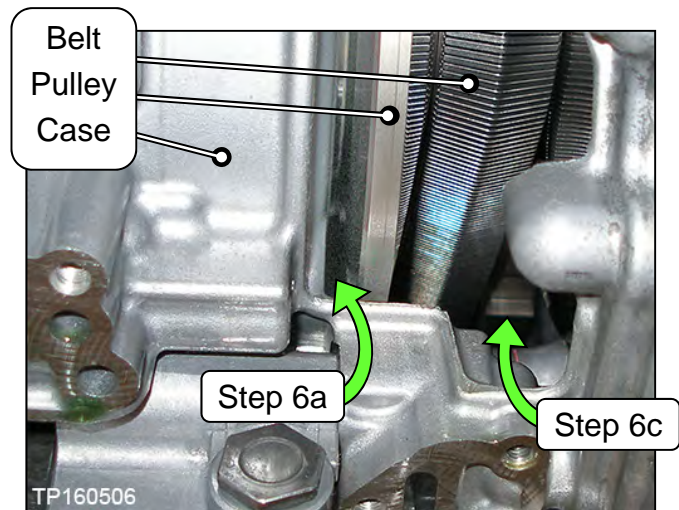
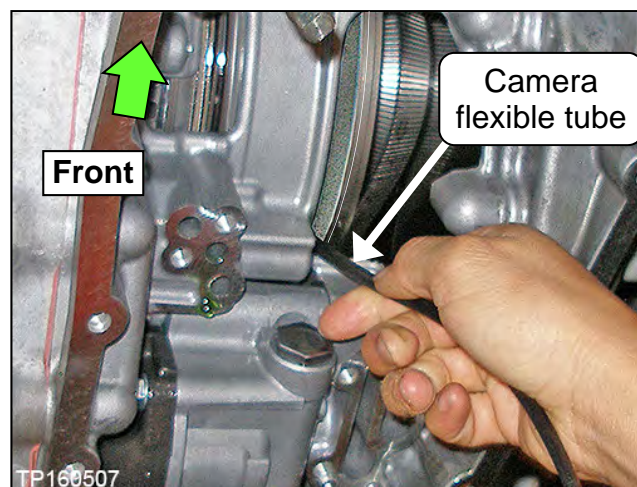
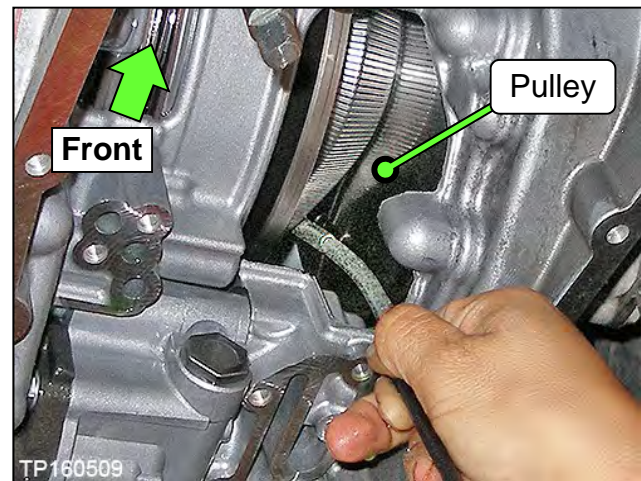

Figure 11
Figure 12
Figure 14
a. Insert the camera lens between the CVT case and pulley where shown in Figure 11 and Figure 12.
- Insert the lens approximately seven (7) inches, and then view the side of the belt that contacts the pulley.
- Insert the camera lens in the second location where shown in Figure 11 and Figure 14, and then perform step 6b again.